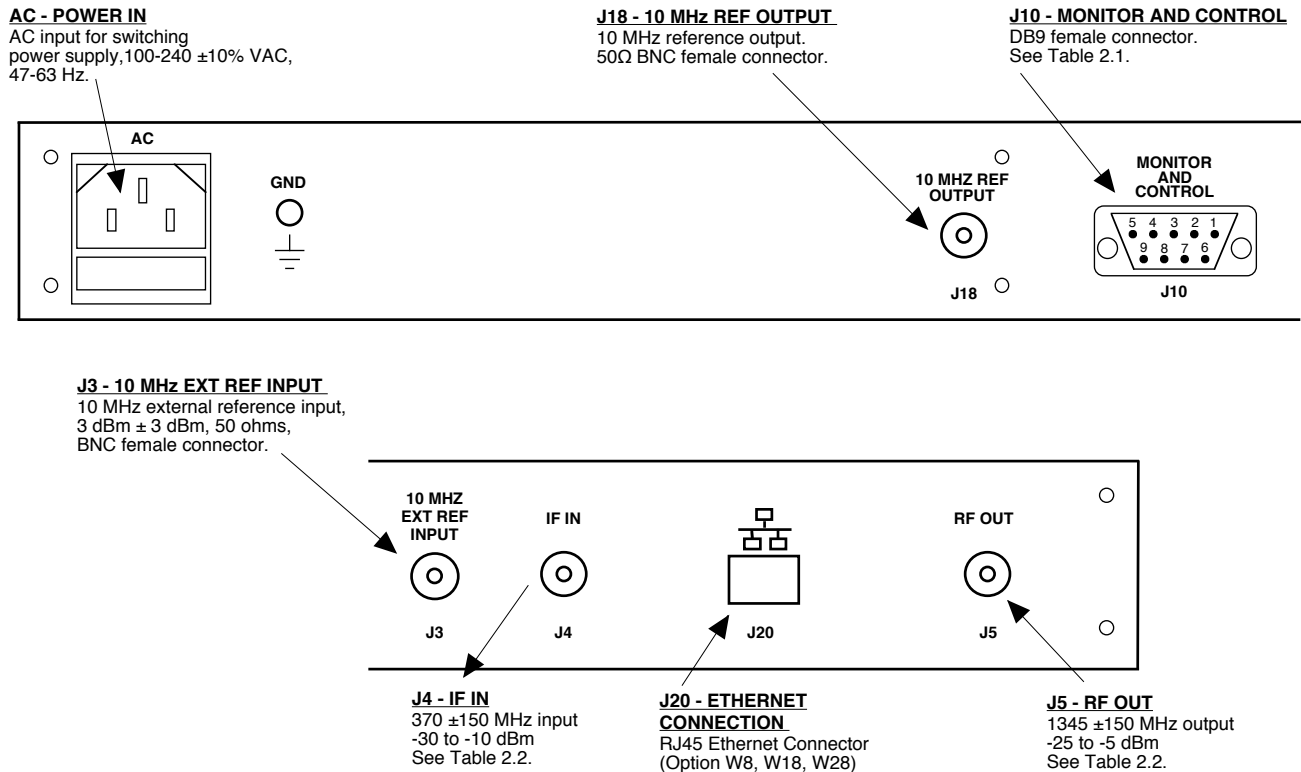

FIGURE 2.2 2083-0514 Rear Panel I/Os
2.2 Rear Panel Input/Output Signals - Figure 2.2 shows the input and output connectors on the rear panel.
1. Connect a -30 dBm to -10 dBm signal to IF IN, J4 (Figure 2.2)